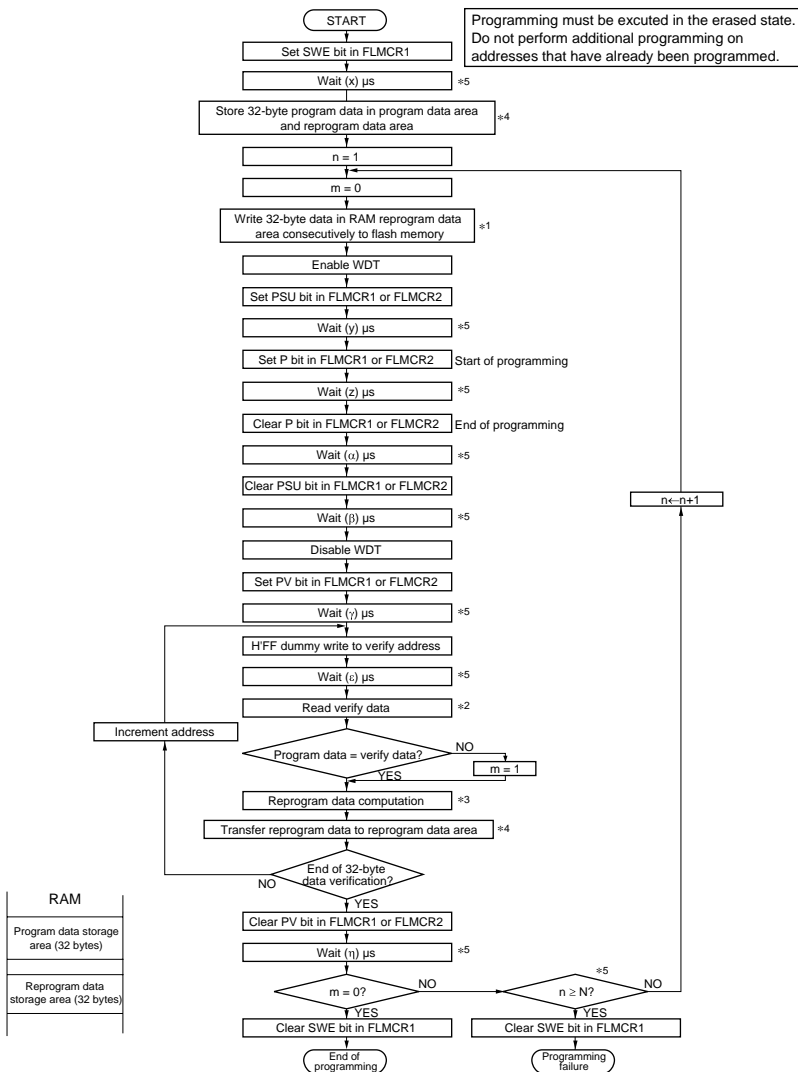

Figure 8.12 Program/Program-Verify Flowchart
Follow the procedure shown in the program/program-verify flowchart in figure 8.12 to write data or programs to flash memory. Performing program operations according to this flowchart will enable data or programs to be written to flash memory without subjecting the device to voltage stress or sacrificing program data reliability. Programming should be carried out 32 bytes at a time.
After the elapse of a given programming time, the programming mode is exited (the Pn bit in FLMCRn is cleared, then the PSUn bit in FLMCRn is cleared at least (α) μ s later). The watchdog timer is cleared after the elapse of (β) μ s or more, and the operating mode is switched to program-verify mode by setting the PVn bit in FLMCRn. Before reading in program-verify mode, a dummy write of H'FF data should be made to the addresses to be read. The dummy write should be executed after the elapse of (γ) μ s or more. When the flash memory is read in this state (verify data is read in 16-bit units), the data at the latched address is read. Wait at least (ϵ) μ s after the dummy write before performing this read operation. Next, the originally written data is compared with the verify data, and reprogram data is computed (see figure 8.12) and transferred to the reprogram data area. After 32 bytes of data have been verified, exit program-verify mode, wait for at least (η) μ s, then clear the SWE bit in FLMCR1. If reprogramming is necessary, set program mode again, and repeat the program/program-verify sequence as before. However, ensure that the program/program-verify sequence is not repeated more than (N) times on the same bits.